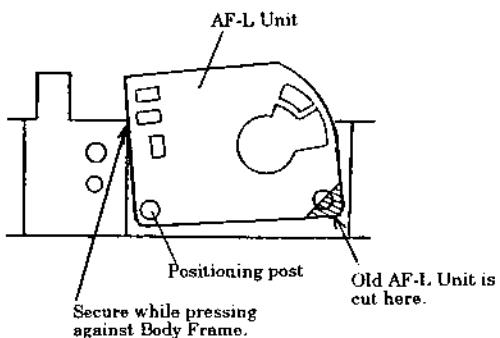

Fig.36
- 4) Remove the Guide Rail (2) Adjust Plate Ass'y Setscrews (61924526) × 3 and take off the Guide Rail (2) Adjust Plate Ass'y (1AFC5100).
- 5) Remove the Guide Rail (1) Adjust Plate Ass'y Setscrews (63922526), (61924526) × 4 and take off the Guide Rail (1) Adjust Plate Ass'y (1AFC5000).
- \* In the camera at the early stage of production, as a tentative measure, the AF-L Unit (1AA52400) is cut and secured by pressing it against the Body Frame as shown in Fig. 36. As the permanent measure, the pattern is modified. The pattern is widened so that the AF-L Unit is not cut nor pressed against the Body Frame at fixing.